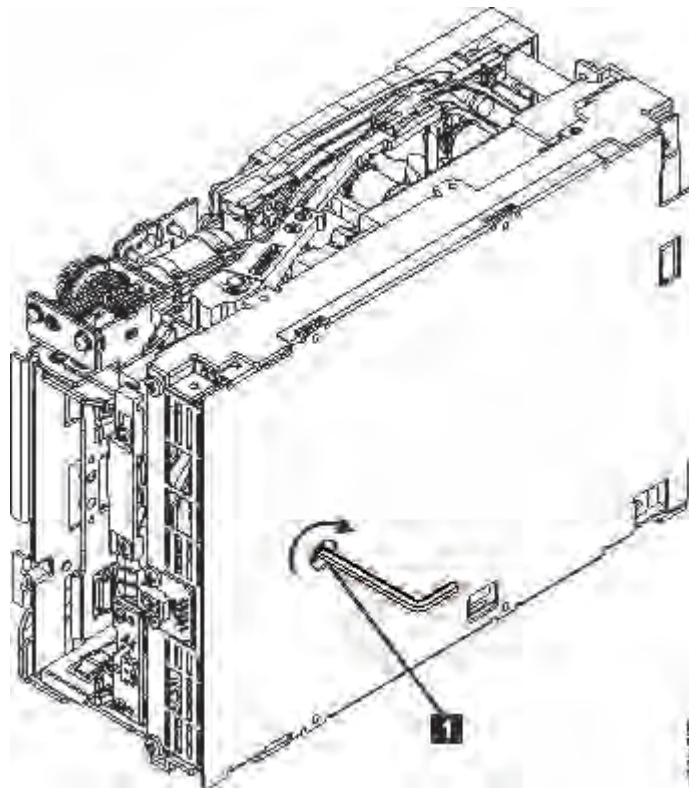

Figure 126. The hex wrench rewinds tape into cartridge
2. From the bottom of the drive, locate the access hole (1 in Figure 126 on page 261).
Note: Be sure to keep tension on the tape as the LBA is drawn into the cartridge by using a hex wrench as shown in Figure 126 on page 261.